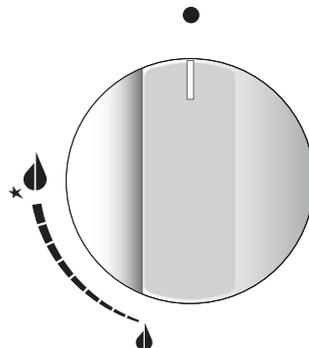

Fig. 4.3
Make the symbols printed on the knob (fig. 4.3) to match with the indicator on the control panel to obtain:
2. Press in the corresponding knob and turn counter-clockwise to the full flame position marked by the  symbol (figs. 4.3 - 4.4) and hold the knob in until the flame has been lit.